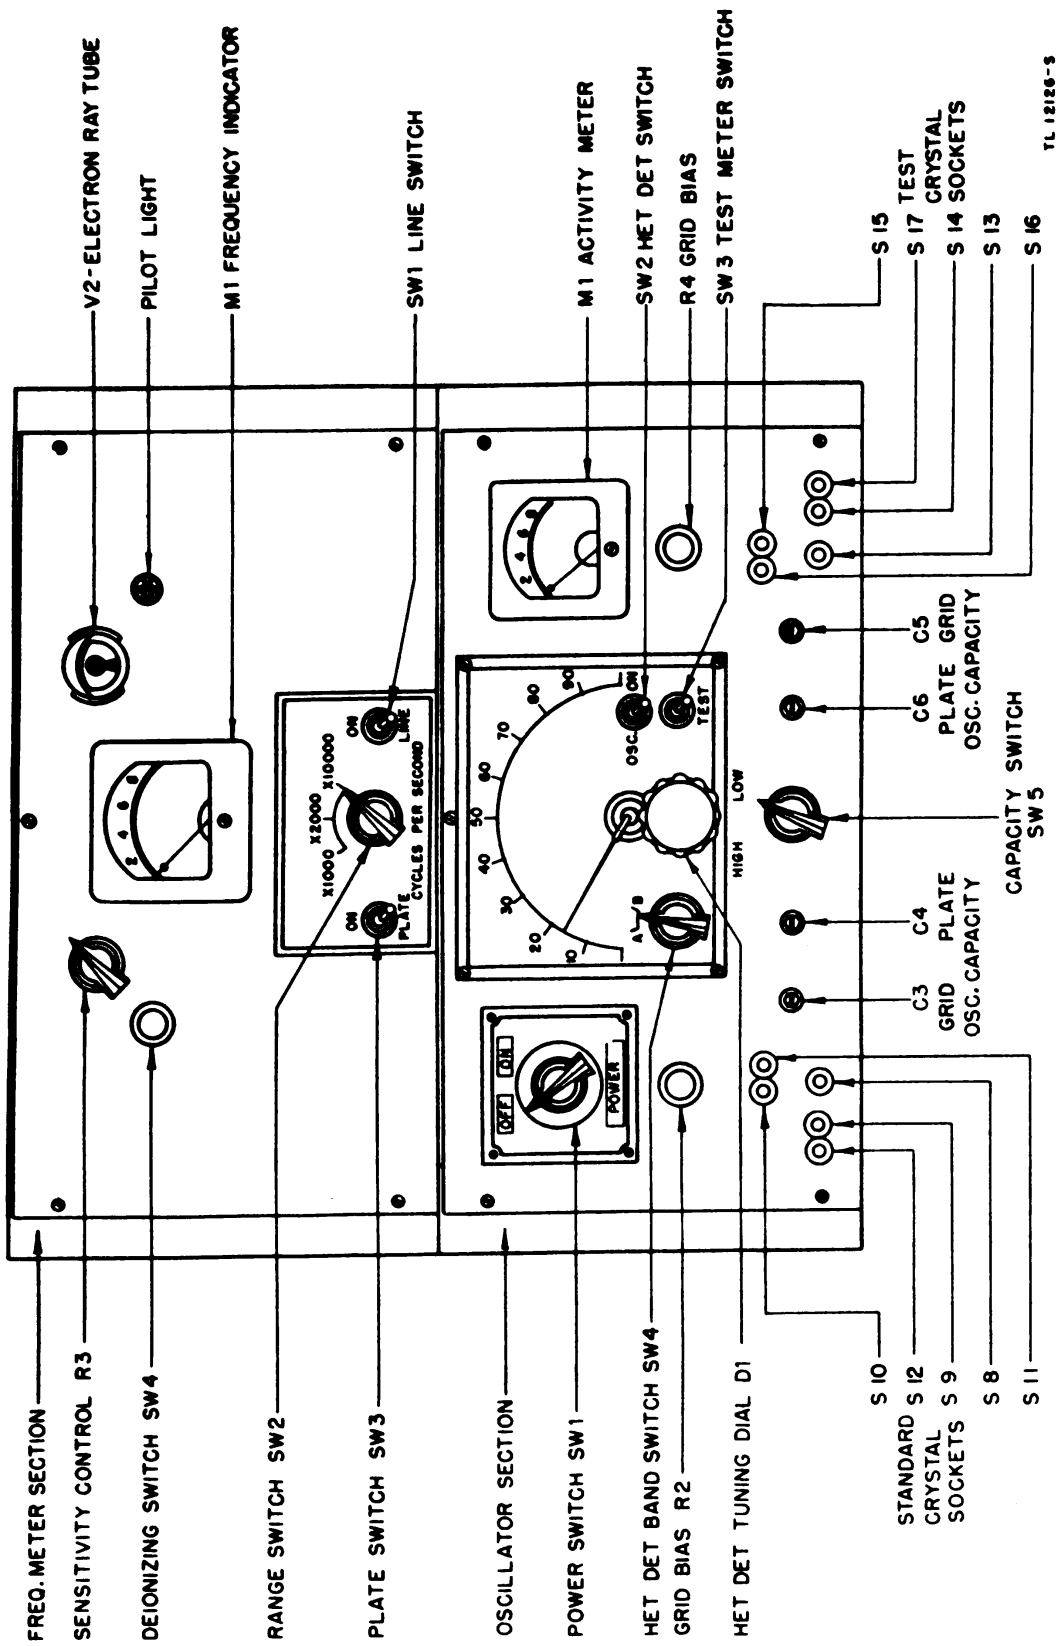

Figure 4. Crystal Test Set TS-314/FSM-1, front view showing all controls.
14. PREPARATION FOR USE (fig. 4).
- d. Plug a crystal, whose known frequency is to be duplicated, into the crystal jacks on the bottom left-hand side of the oscillator panel (fig. 4).
- g. If crystal X1 is between 2,000 and 5,000 kc, turn BAND A B switch to A (fig. 4). If crystal X1 is between 5,000 and 10,000 kc, turn this switch to B.
h. Rotate the tuning knob on the oscillator section (fig. 4) until a beat note is heard, and then carefully adjust it so that zero beat is reached. Note the dial setting at this point.
a. Set the CYCLES PER SECOND switch (fig. 4) at X10000.